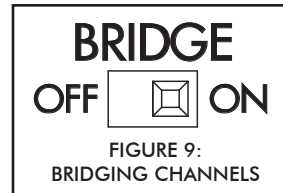

FIGURE 9:
1. Set the zone's BRIDGE switch to the ON position (see Figure 9).